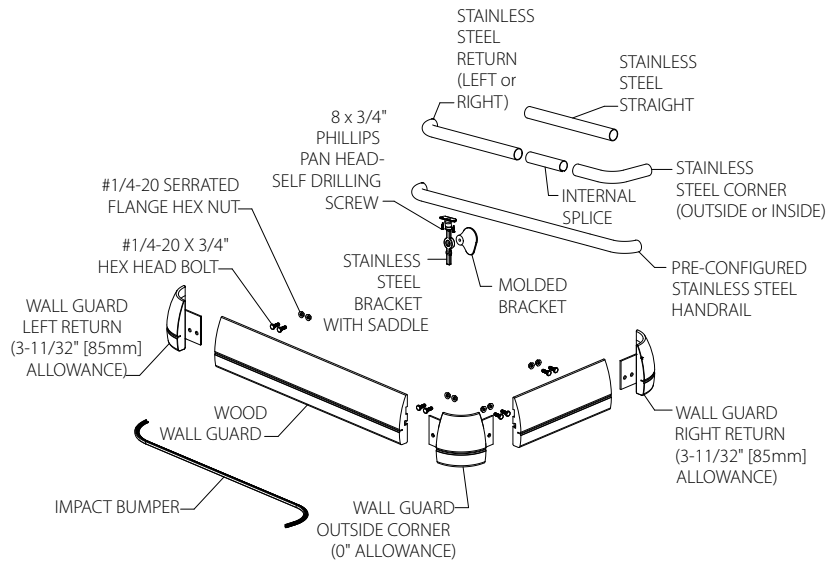

FIG. 1
1. Locate brackets 7" (178mm) from the end of the return and spaced a maximum of 32" (813mm). Using a bracket extension as a template, mark and drill holes on the bottom of the stainless steel handrail for the bracket saddle. See **Fig. 1**. Drill holes with a High-Speed Steel Jobbers' Drill Bit for Stainless Steel. McMaster-Carr #3020A14, 9/64" [3.5mm] drill bit. (Inpro supplied).